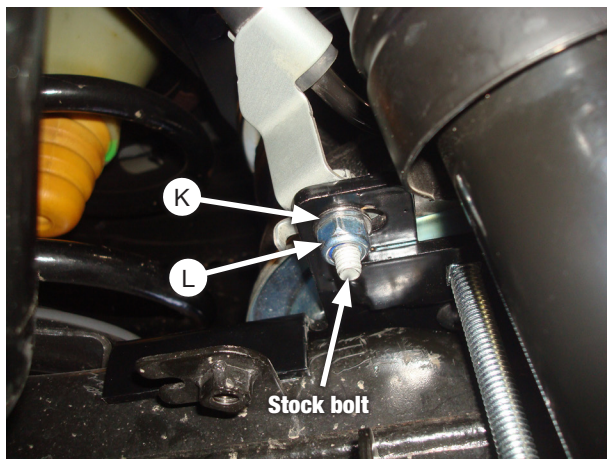

Fig. 16
5. Using the stock bolt removed, supplied M8 flat washer (K) and M8 nylon lock nut (L), attach the ABS line to the front of the lower bracket (Fig. 16). Position the bracket so there is clearance between the roll plate and the shock (Fig. 17). Tighten hardware securely.